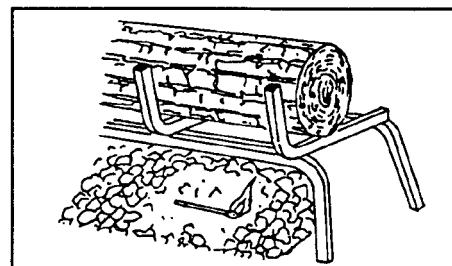

Figure 8. Lighting the log set
- C. Lay match on top of embers and granules near gas burner input. **Do not hold match in hand.** (See Figure 8.)